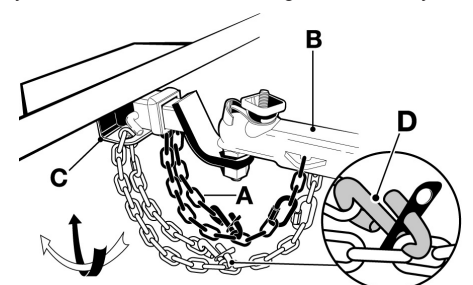

Figure 8
This AT will have either safety chains or safety cables. Identify which type you have by referring to figure 8 and 10, then follow the instructions below (figures 8-9 or 10-11) for the type you have.
The left chain (A) crosses underneath the trailer tongue (B) and hooks to the right side of the tow vehicle permanent hitch (C), "D"-rings, frame or structure, or to the tow vehicle bumper brackets. (Figure 8) Do not attach chains to the ball or to a ball mount that is removable. The right chain hooks to the left side in the same manner. Crossing the chains under the tongue allows the minimum amount of slack for turning. The "S"-hooks (D) on safety chains can be hooked to the attachment holes on the hitch, if present, or passed through these holes and hooked back to a link in the chain. Control safety chain slack by hooking the chain back to itself or by twisting the links to shorten chain. Be sure the "S"-hooks are secured with a rubber retainer.